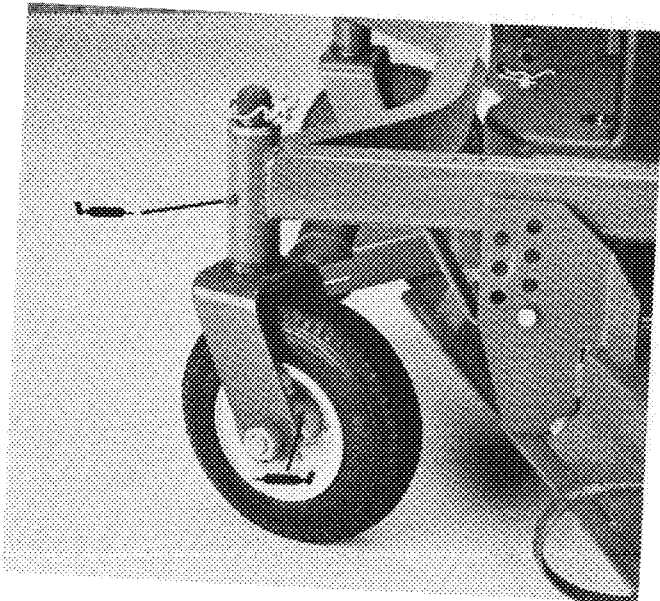

Figure 10
1. The cutting unit must be lubricated regularly. If machine is operated under normal conditions, lubricate blade spindle bearings, castor bearings and castor bushings with No. 2 general purpose lithium grease or molybdenum base grease, after every 8 hours of operation or daily, whichever comes first (Fig. 10 & 11).